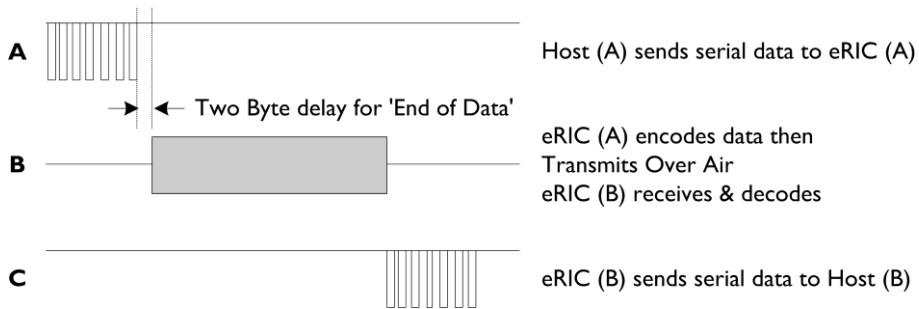

Figure 5 Timing Diagram
- A. Host (A) sends serial data to eRIC (A). The data must be continuously streamed (no breaks) at the selected host Baud rate and is loaded into an internal transmit buffer.
- C. Data within the receive buffer of eRIC (B) will be sent to Host (B) at the selected Baud rate.
Host (A) must allow time for the complete 'Over-Air' transmission and for the receiving Host (B) to unload (and process) the data before sending new data. (See Figure 5). There is no automatic 'RF handshaking' provided by the eRIC transceivers. Radio transmission and reception is bi-directional (half duplex) i.e. transmit OR receive (but not simultaneously) and there is no automatic confirmation of the satisfactory reception of the data.